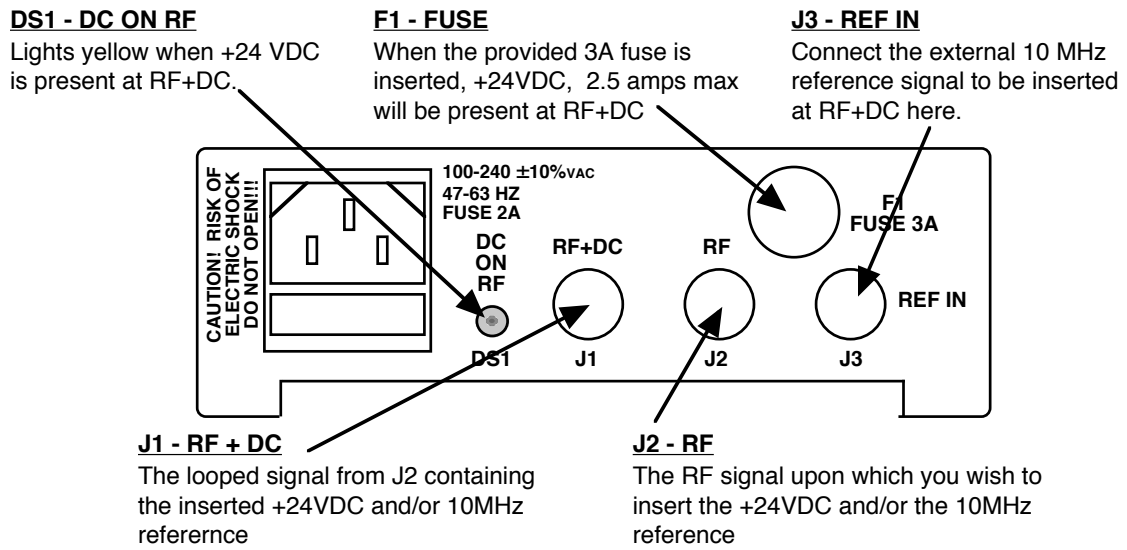

FIGURE 2.2 Rear Panel I/Os
2.2 Rear Panel Input/Output Signals - Figure 2.2 shows the input and output connectors on the rear panel.
1. Connect an RF signal to RF connector, J2 (Figure 2.2).
2. Connect RF+DC connector, J1, to the external equipment (Figure 2.2).
3. To insert +24 VDC on the RF signal insert a 1 amp fuse (provided) in fuse holder, F1 (Figure 2.2).
4. To insert a 10MHz reference signal on the RF signal connect a 10MHz source to the REF IN, J3 (Figure 2.2).
5. Connect 100-240 \pm 10% VAC, 47 - 63 Hz to AC on the back panel (Figure 2.2).
7. If fuse, F1, is inserted check that SSPB Power LED, DS1, is on (Figure 2.2)